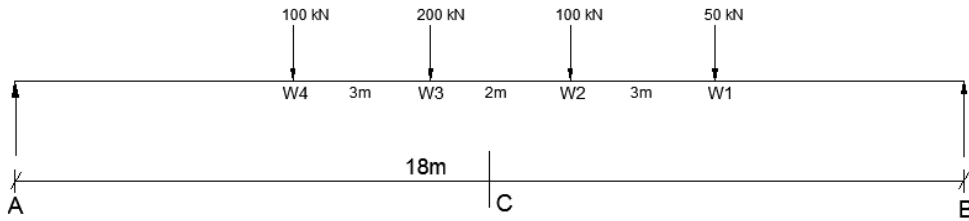

Figure 2
6. A girder having a span of 180m is simply supported at the ends. It is traversed by a train of loads as shown in **figure 2** . The 60 kN load is leading. Find the maximum bending moment which can occur 14M